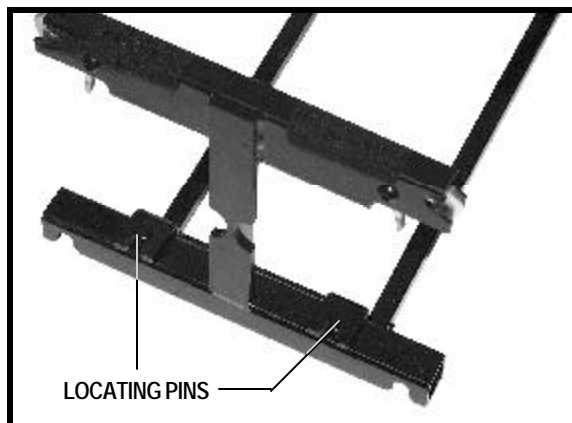

Figure 28. Front Frame Locating Pins
2. Position the notches on the front of the battery well frame onto the locating pins on the bottom bar of the front frame. See figure 28.